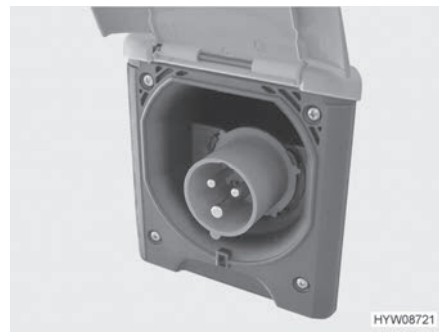

Fig. 107 230 V connection on the vehicle (CEE socket outlet)
- Open the cover of the 230 V connection on the vehicle (Fig. 107) and insert the plug connector. Ensure that the detent of the spring-mounted pivoting cover is engaged in position.